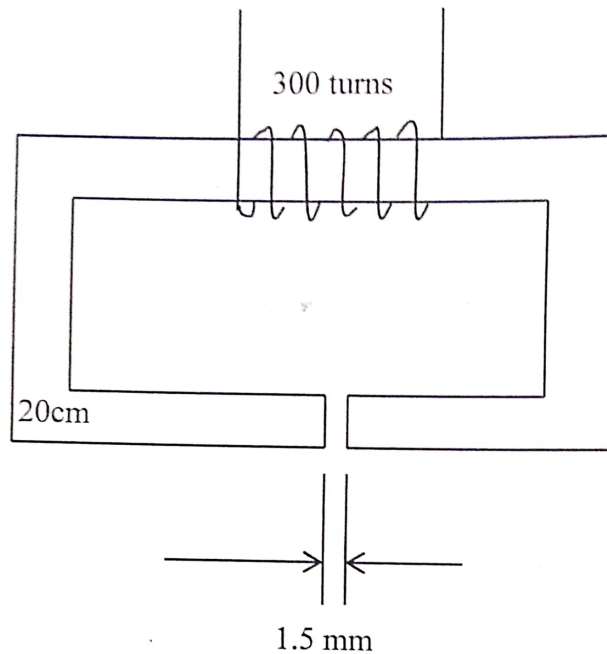

Figure 1: Question 4b
- In the Figure 1, find the current, I in the coil needed to produce a flux of 0.45mWb in the air gap. The silicon iron magnetic circuit has a uniform cross-sectional area of 3cm^2 , magnetic flux density 1.5Tesla and Magnetic field strength 3500At/m (8 marks)